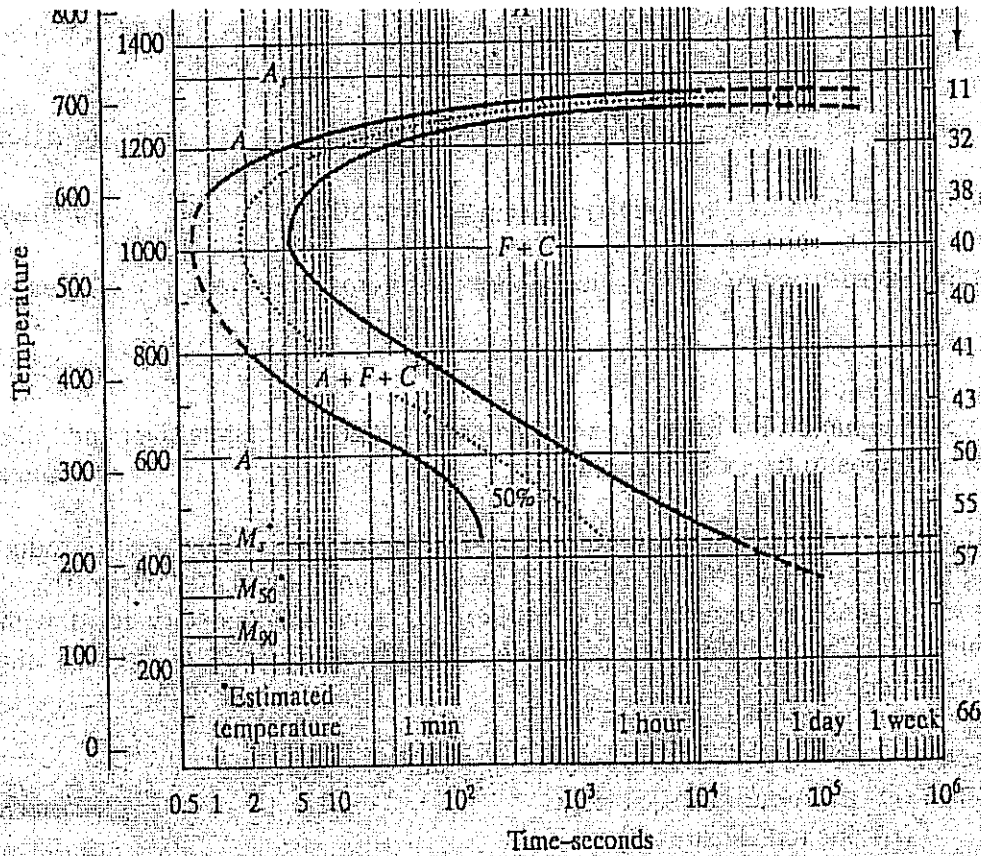

Figure 2
2. Using the isothermal transformation diagram in Figure 2, for a 1.13 wt% C steel alloy determine the final microstructure of a small specimen that has been subjected to the following time-temperature treatments. In each case assume that the specimen begins at 920°C and that it has been held at this temperature long enough to have achieved a complete and homogeneous austenitic structure.